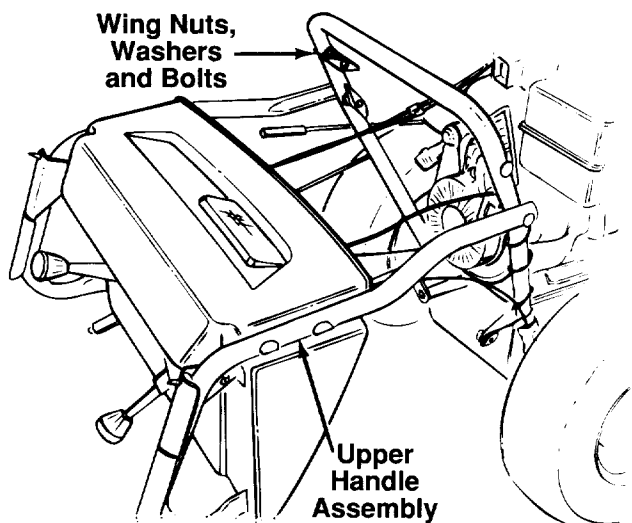

FIGURE 1.
4. Remove the upper two plastic wing nuts, cupped washers and carriage bolts from the lower handle. See figure 1.
5. Raise the upper handle assembly until it locks over the lower handle. See figures 1 and 2.